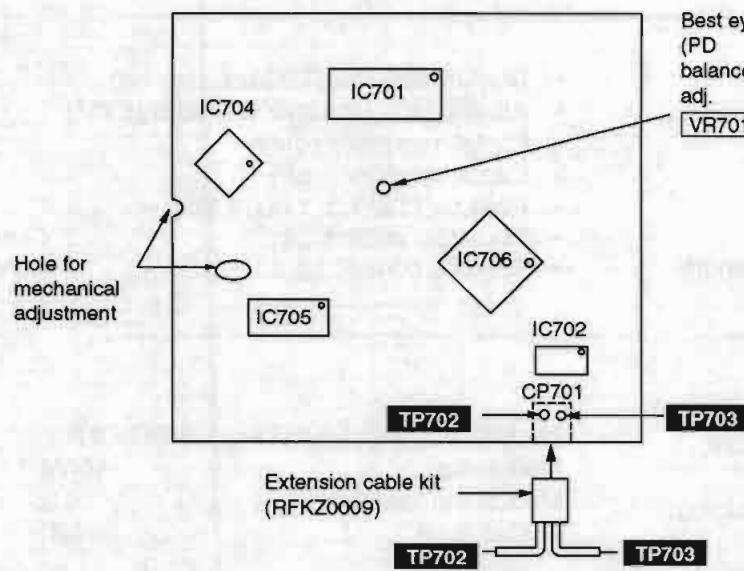

Fig.1
3. Adjust VR701 until the vertical fluctuation of RF signal is minimized and the eye pattern is moststretched. (Refer to Fig. 1 on page 22)